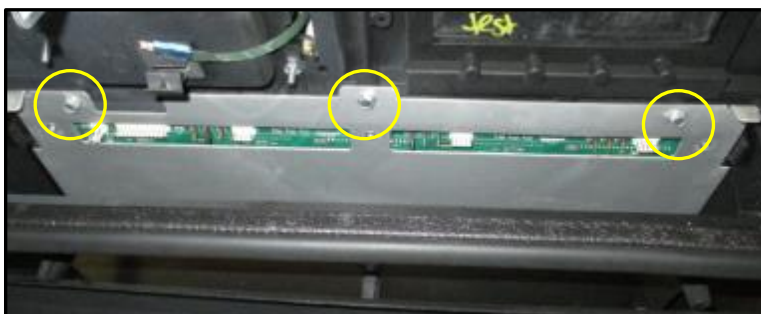

Fig 1.10 – Location of PPU Panel screws
12. Remove and discard the three #6-3/8" sheet-metal screws that fasten the PPU assembly to the door. (Fig 1.10)